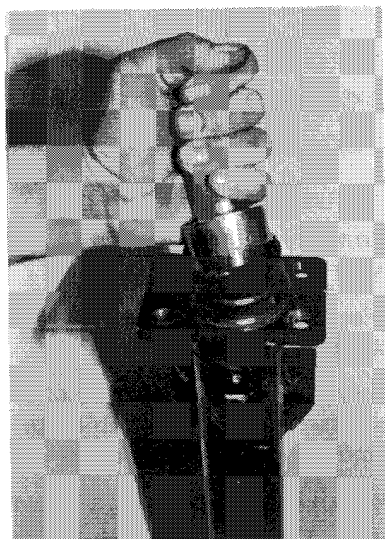

Figure 6-6
2. Install new seal (17) in axle tube (15 and 41) with seal lip facing away from bearing. Place seal in tube and use axle seal tool (CLUB CAR part # 1014162); press until seal seats firmly (Figure 6-6).
4. Install retaining ring (19) in axle tube with pliers.